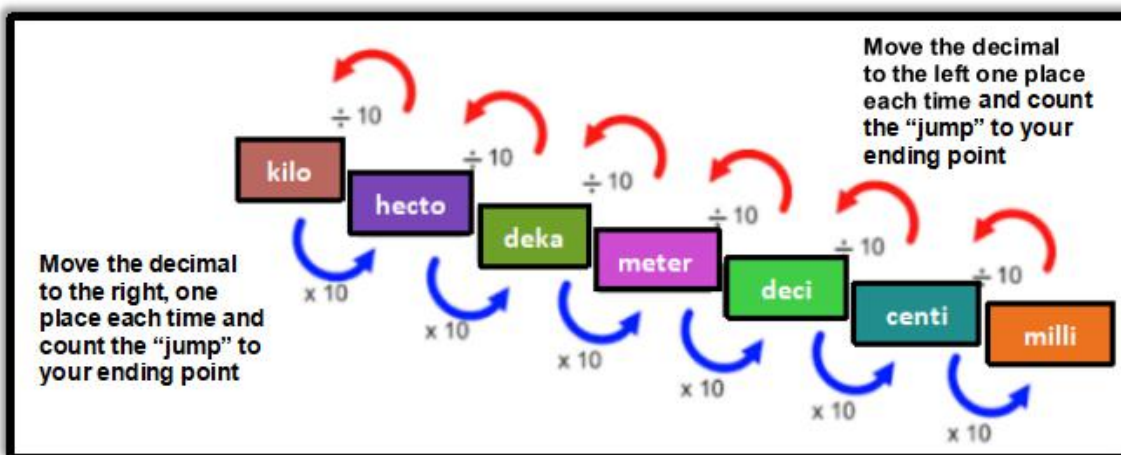

Figure 1.7 Converting between metric units of length
- Diagram in **Figure 1.7** below illustrates how to convert between metric length units.
These problems can be solved by referring to the information provided in **Table 1.5** (page 14) and **Figure 1.7** (page 18).